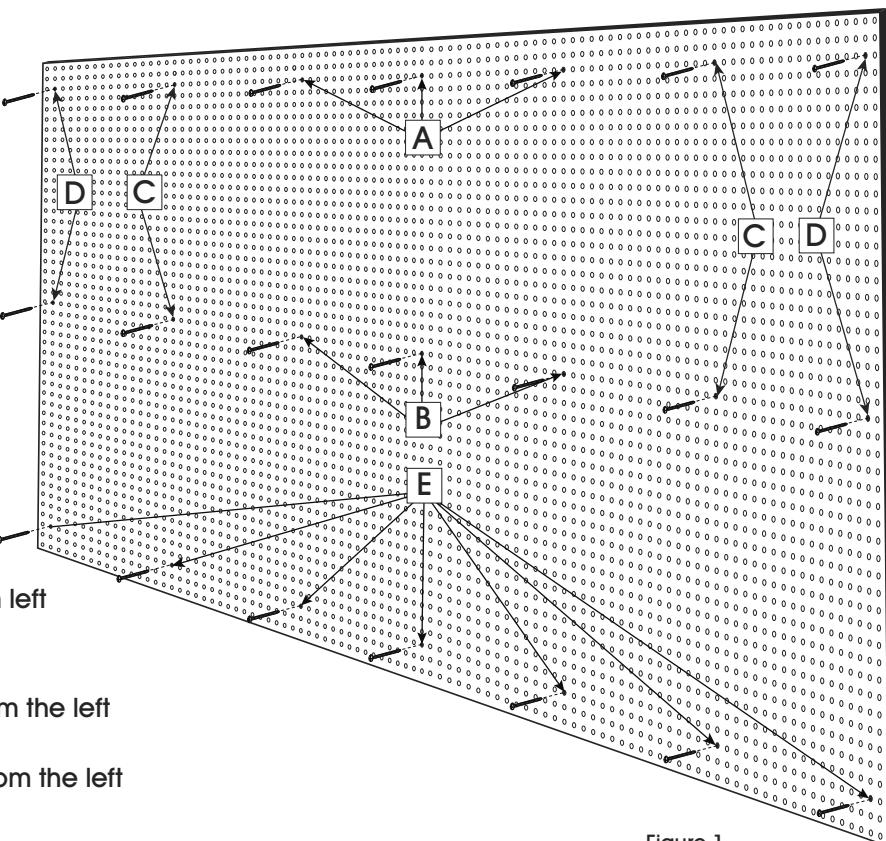

Figure 1
1. With someone holding the pegboard in place, mark all holes on wall according to Figure 1 below where screws will be inserted for hanging. (See Figure 1)
4. Following Figure 1 below, glue spacers to back of all pegboard holes through which screws will be inserted. Be careful to glue spacers over the same pegboard holes used to mark wall in step 1 or spacers and holes in wall will not line up correctly. (See Figure 1)
HANGING PEGBOARD (See Figure 1)